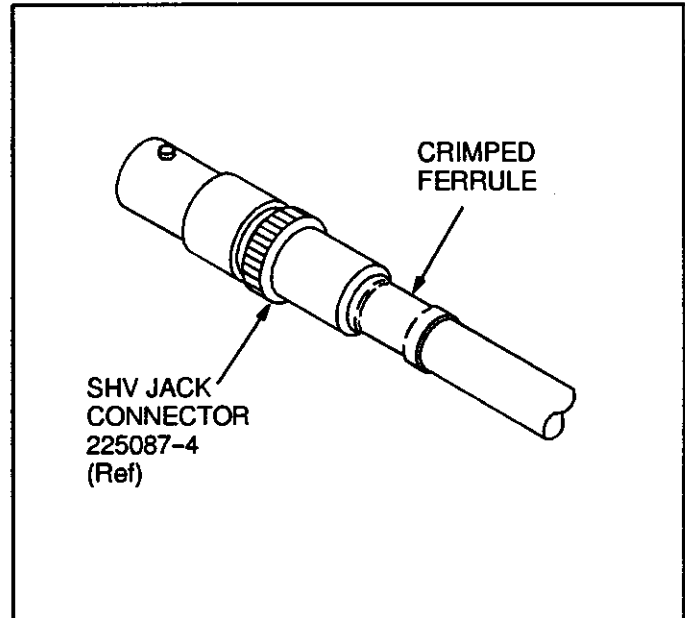

Fig. 5
4. Slide ferrule forward over braid and support sleeve; then crimp ferrule using the appropriate crimping tool. See Figure 5.